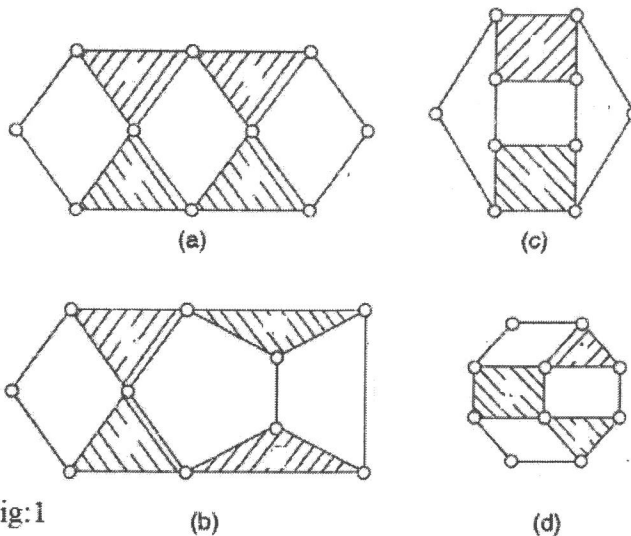

Fig:1
- 1 Determine the links, joints and mobility (degrees of freedom) of the mechanism shown in Fig. 1(a,b,c,d) using Kutzbach mobility criterion and classify them. MM:10 CO1